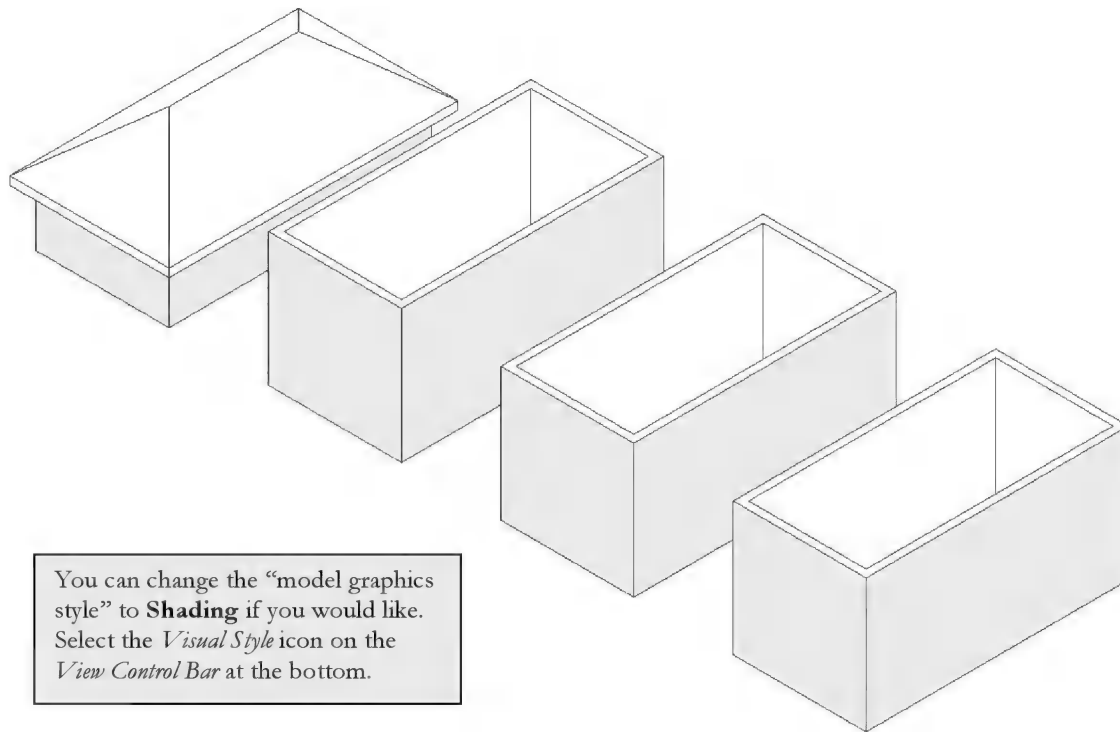

FIGURE 6-3.4 3D view – hip roof
15. Switch to the **3D** view using the icon on the *QAT* (Figure 6-3.4).